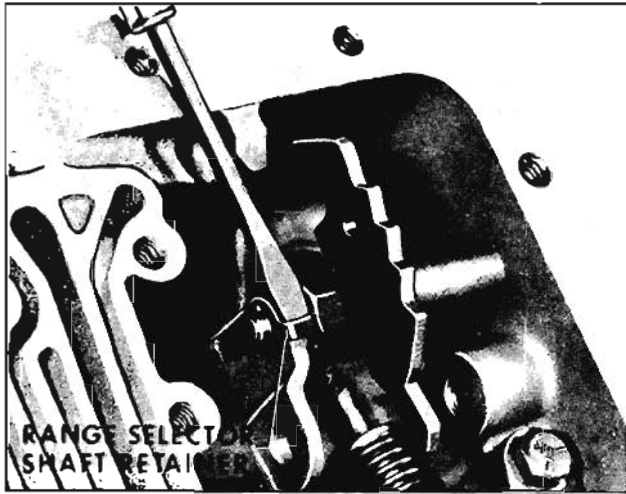

Fig. 6-298 Removing Selector Shaft Retainer
2. Remove range selector shaft retainer. (Fig. 6-298)